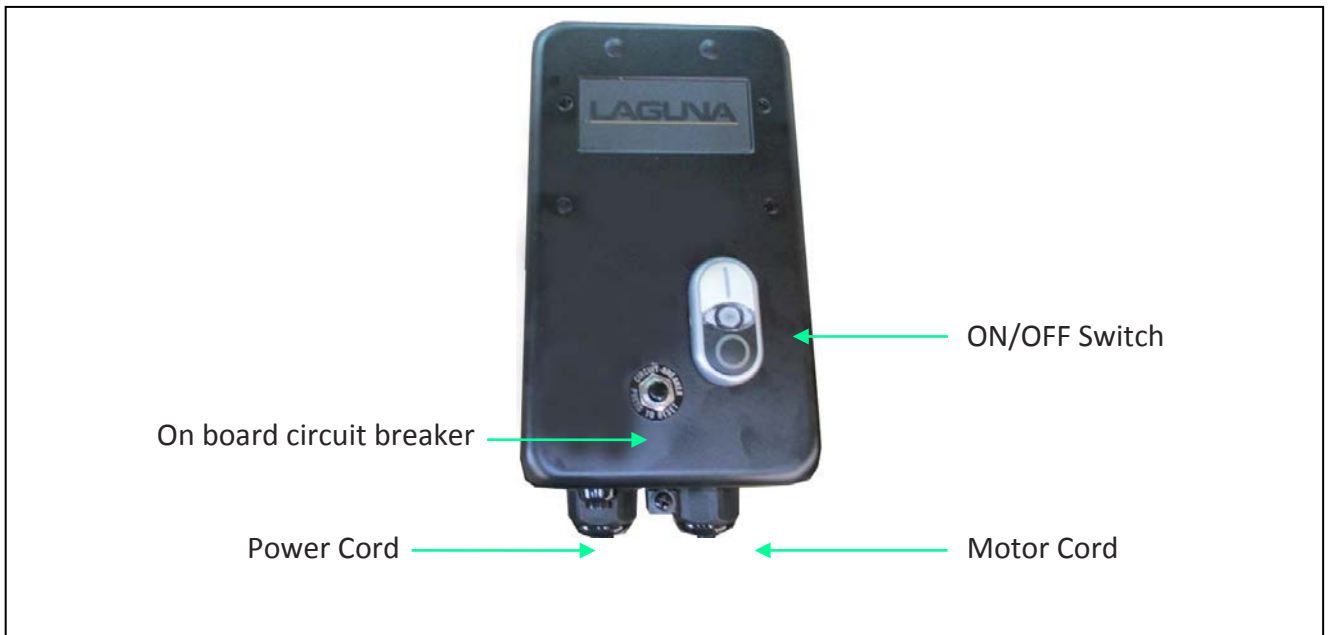

Figure 39: Manual Switch with High Frequency Remote Control Receiver
4. To start, press the ON button on either the ON/OFF switch (Fig. 38) or remote control, (Fig. 39).
5. To stop, press the OFF button on either the ON/OFF switch (Fig. 38) or remote control, (Fig. 39).